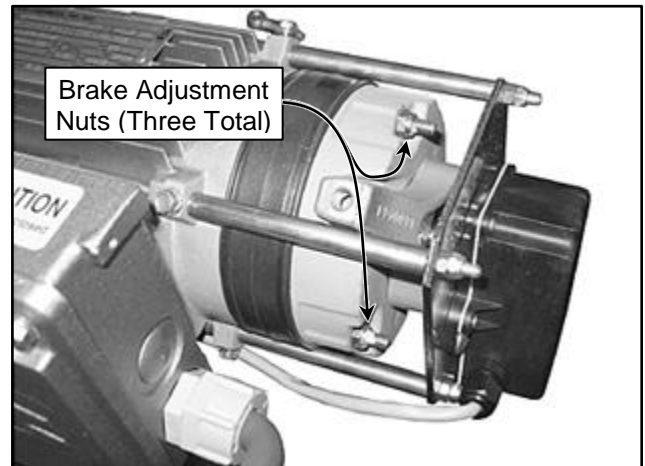

Figure 44
3. To adjust the brake, first securely tighten all brake adjustment nuts. Then back off each nut 1/2 turn counterclockwise. (See Figure 44)